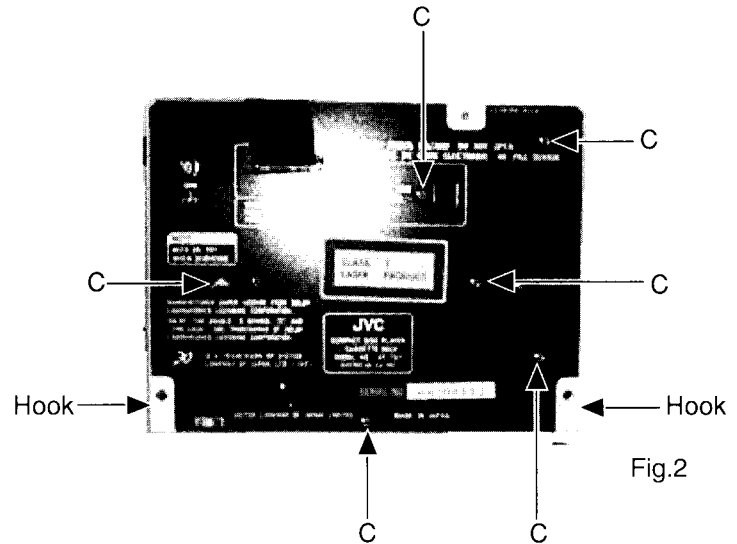

Fig.2
1. Remove 6 screws(C)fastening rear panel(Fig.2).